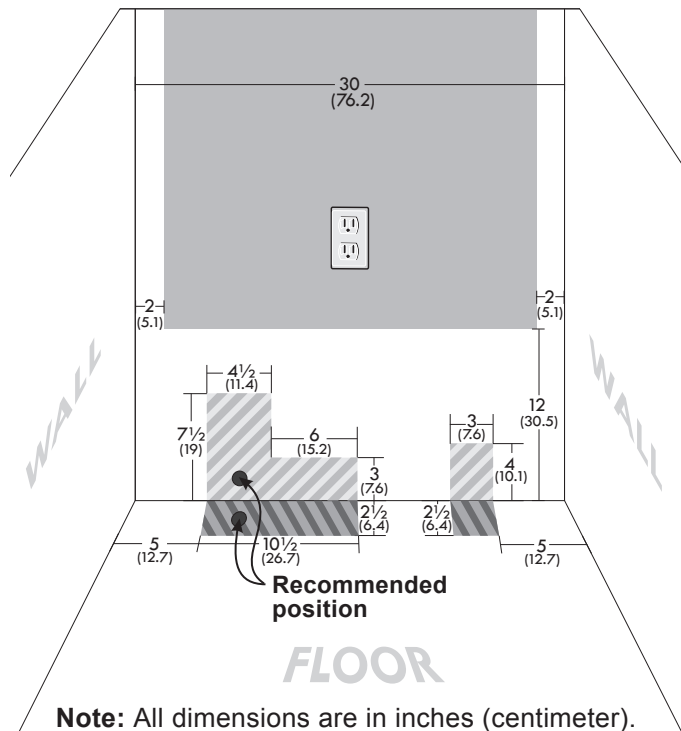

Figure 2
- The hatched areas are the locations where the gas line can enter the cabinet (figure 2).
- The recommended position for the gas entry line is located at 7 1/4" (18,4 cm) from the left cabinet wall and 2" (5,1 cm) from the floor (figure 2).
- The shaded area is the location where the electric outlet can be located (figure 2).